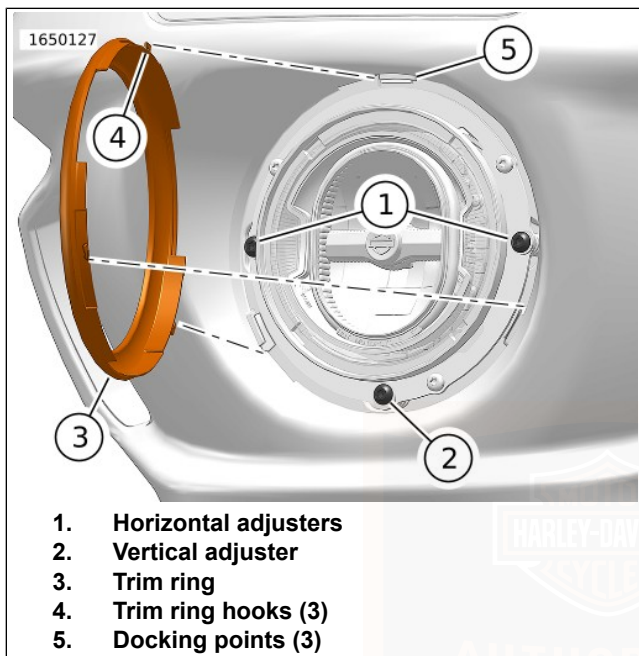

Figure 75. Headlamp Adjusters: FXLRST
- a. **FXLRST:** See Figure 75. Remove headlamp trim ring for access to headlamp.
- b. With intended rider on motorcycle, measure distance from corner of lens or trim ring (2) to floor.
- a. Low beam is aligned when top of low beam pattern (2) cut off line is aligned with alignment line (3).
8. **FXLRST:** See Figure 75. Install headlamp trim ring.
1. See Figure 75. Rotate trim ring (3) counterclockwise to disengage trim ring hooks (4) from docking points (5) and remove.
2. Rotate horizontal adjustment screw (1). Adjust headlamp horizontally to direct light beam straight ahead.
3. Rotate vertical adjustment screw (2). Adjust headlamp vertically until beam centers on horizontal line.
- a. Align trim ring hooks (4) with docking points (5).
- b. Rotate trim ring (3) clockwise into position.